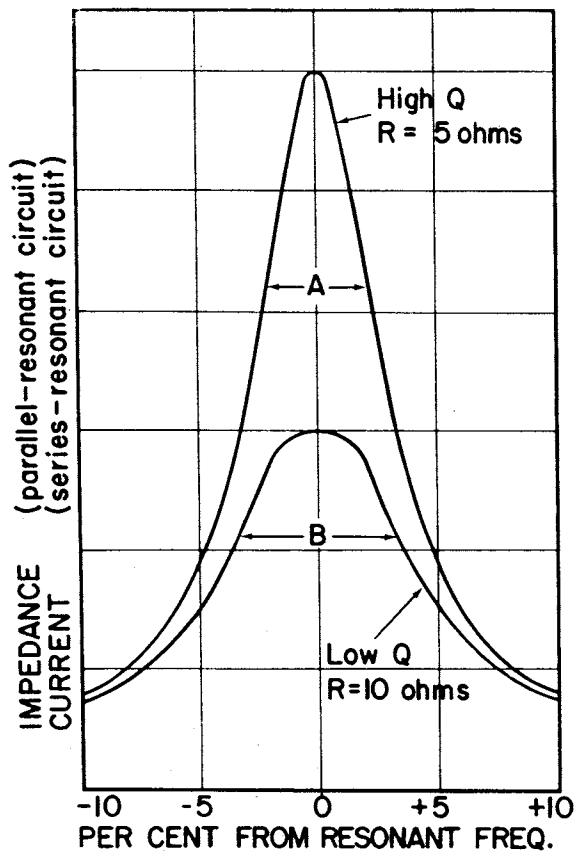

Figure 6 - Response curves for two resonant circuits having same inductance, but different series resistance
The slope of the resonance curve for a tuned circuit depends upon the  $Q$  of the circuit. Figure 6 shows the response curves for two resonant circuits having the same inductance, but different series resistance. Note that the circuit having the lower resistance has a higher  $Q$  and, therefore, a much steeper slope. Note also that the bandwidth at the half-power points on these selectivity curves (.707 of maximum) is much narrower for the high- $Q$  circuit (A) than for the low- $Q$  circuit (B).